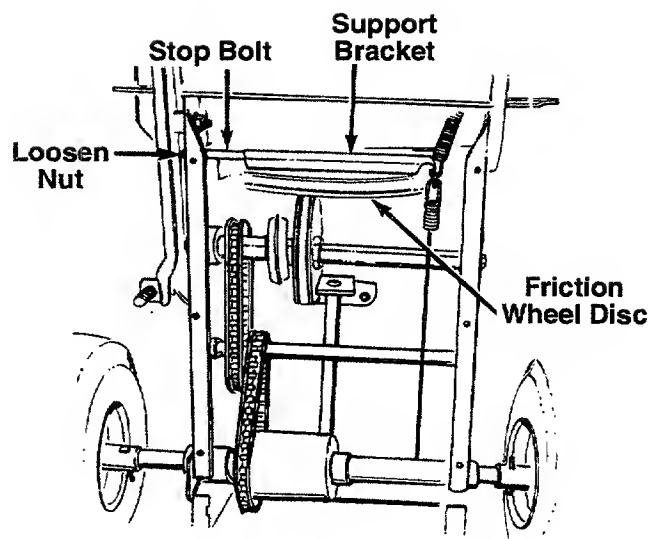

FIGURE 26.
- Loosen the nut on the stop bolt until there is clearance between the support bracket and the friction wheel disc. See figure 26.